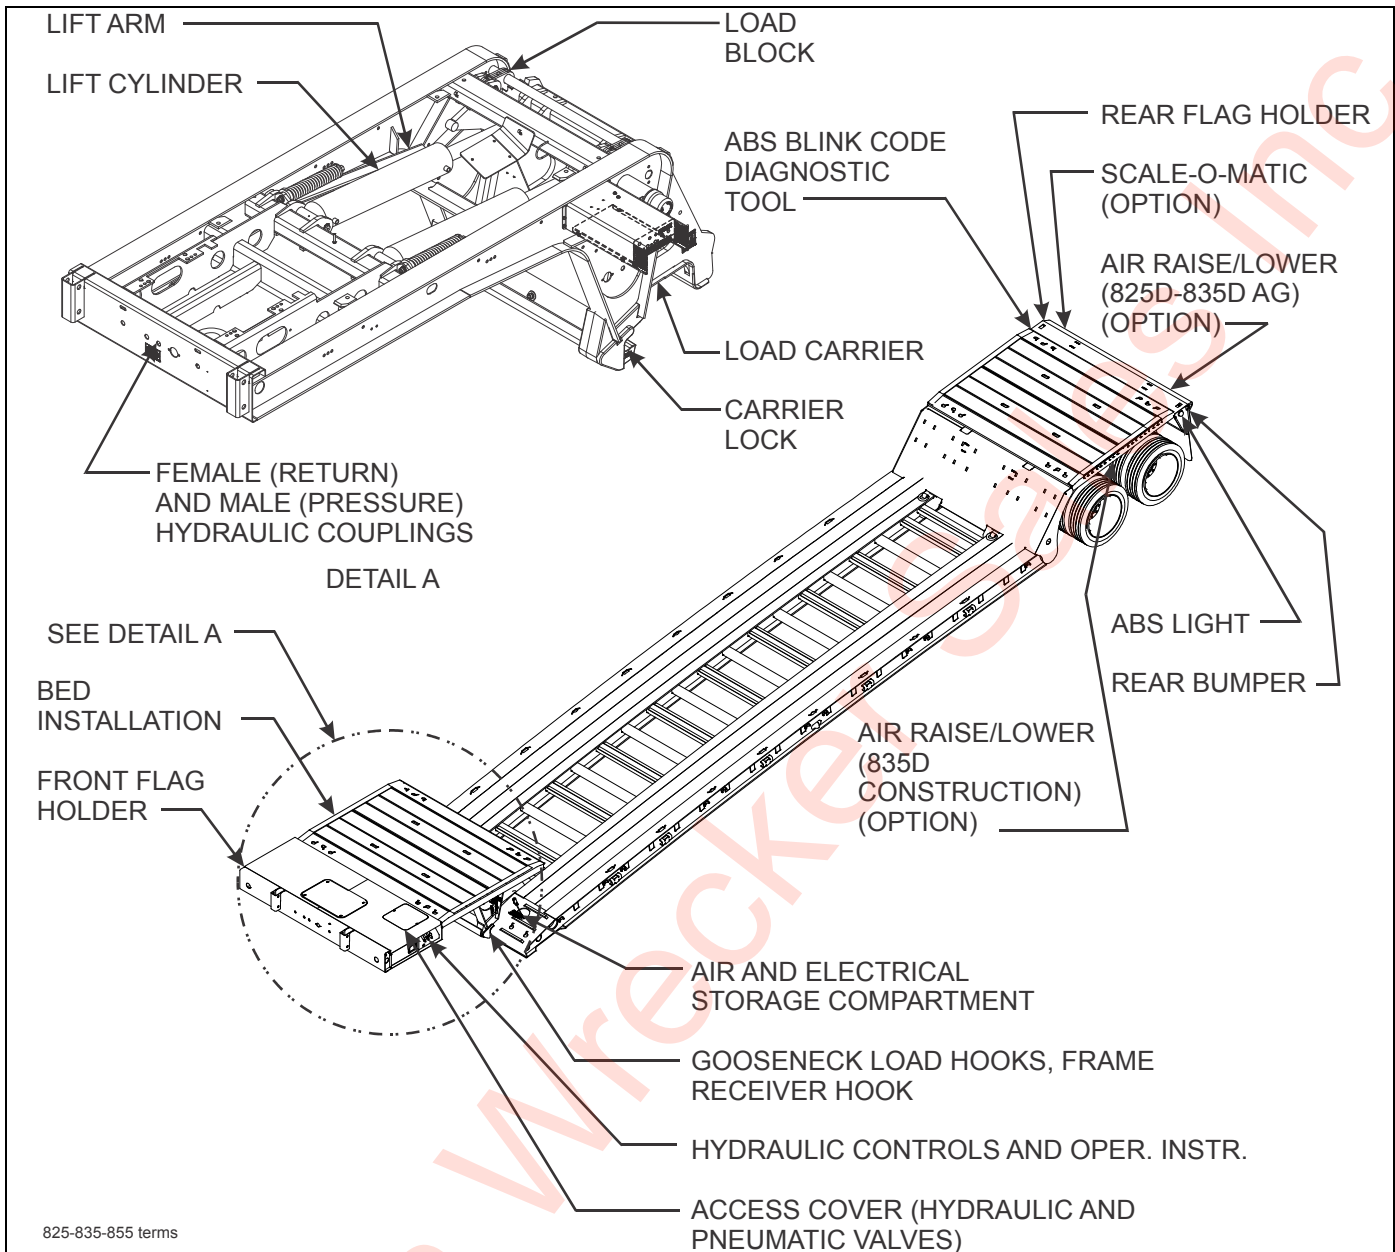

Figure 3-1: Trailer Terminology
This section supplies information for operation of the semitrailer. It describes and locates controls and gives general operation procedures. Read all instructions, warnings, cautions, and danger notes before attempting to operate the semitrailer. Operators must have proper training before operating the semitrailer. **(See Figure 3-1 for location of semitrailer parts.)**
2. Using the **TRAILER LIFT** lever, lift the trailer up until the load blocks can be lowered into position (**See Figure 3-1.**)
3. Activate the **TRAILER LIFT lever** "DOWN" until the semitrailer rests completely on the load blocks (**See "Trailer Lift Lever" on page 3-8.**) (**See Figure 3-1.**)
The **TRAILER LIFT lever** (See Figures 3-1 and 3-3) is located on the driver's side of the gooseneck assembly. It is the middle lever and has three positions: